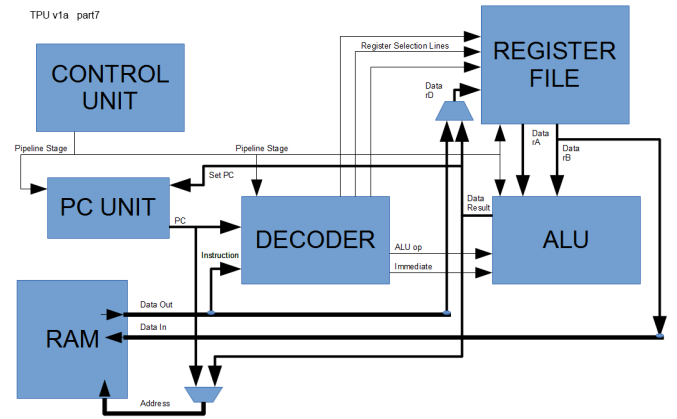

Figure 2: Simple 16-bit Microprocessor[9]
The microprocessor consists of a simple architecture made up of a processor which is interfaced with a memory unit as shown below in figure 2. The processor consists of few registers, an arithmetic logic unit(ALU), a Control Unit(CU) and a Memory Interface. All these components are interfaced using busses which act as a communication path. The Microprocessor can be divided into four parts: